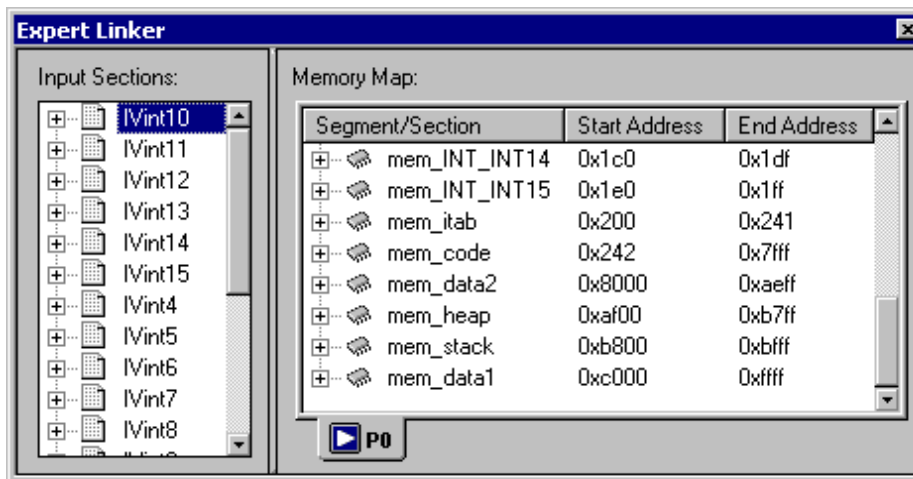

Figure 4-7. Expert Linker Window
- The **Input Sections** pane (Figure 4-7) provides a tree display of the project's input sections (see “Input Sections Pane” on page 4-12).
The **Input Sections** pane (Figure 4-7) initially displays a list of all the input sections referenced by the .LDF file, and all input sections contained in the object files and libraries. Under each input section, a list of LDF macros, libraries, and object files may be contained in that input section. You can add or delete input sections, LDF macros, or objects/library files in this pane.